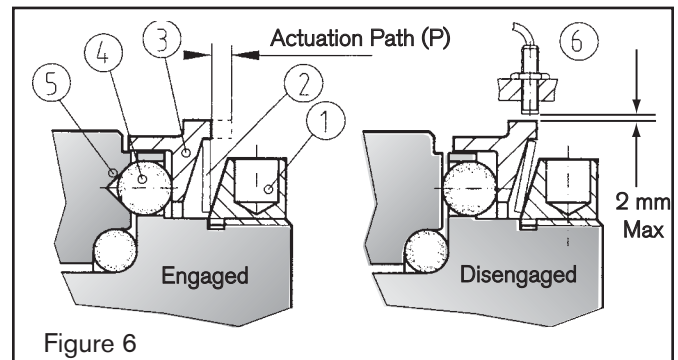

Figure 6
The axial movement of the actuation ring (3) can be sensed with a proximity sensor (6). The distance the actuator ring move is given in Table 3 and is important for the selection of the appropriate sensing device. Mount the sensing device on a solid support keeping the distance shown in Figure 6.